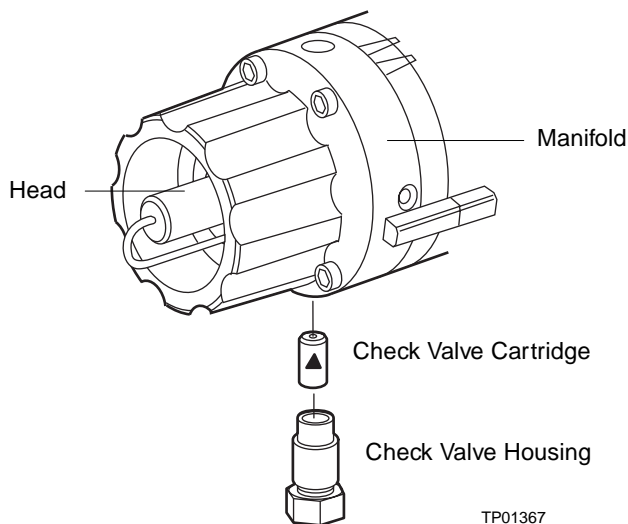

Figure 7-7 Inlet Check Valve
4. Use the 1/2-inch wrench to hold the inlet check-valve housing while you loosen the inlet check valve compression screw with the 5/16-inch wrench (Figure 7-7).
6. Use the 1/2-inch wrench to disconnect the check-valve housing from the manifold (Figure 7-7).